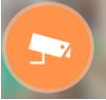

Figure 4-20
menu->Setting->Network->P2P, you can also go to the P2P interface. See Figure 4-20.
3. Tap Device manager button, you can use several modes (P2P/DDNS/IP and etc.) to add the device. Click  to save current setup. Tap Start Live preview to view all-channel video from the connected device. See Figure 4-20.